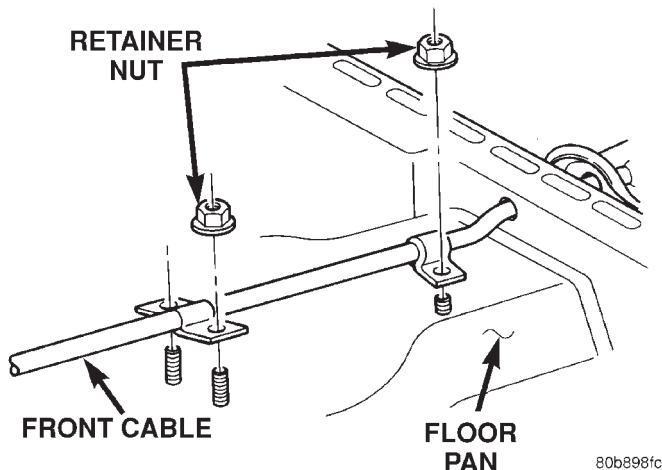

Fig. 50 Front Parking Brake Cable
(8) Remove front cable retainer nuts (Fig. 50) from the floor pan.